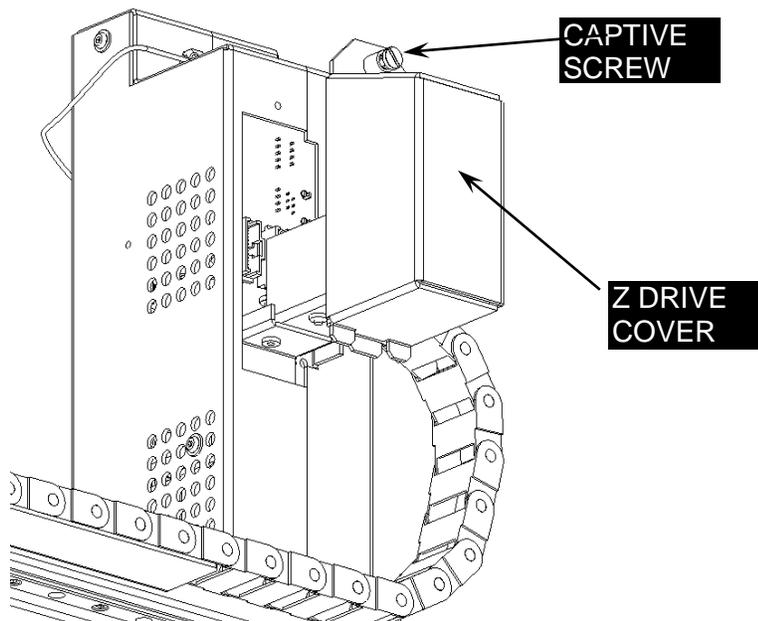

Figure 7-1: Removing the Z Drive Cover
1. Loosen the Captive screw and unclip the Z drive cover from the back of the Z drive (Figure 7-1).